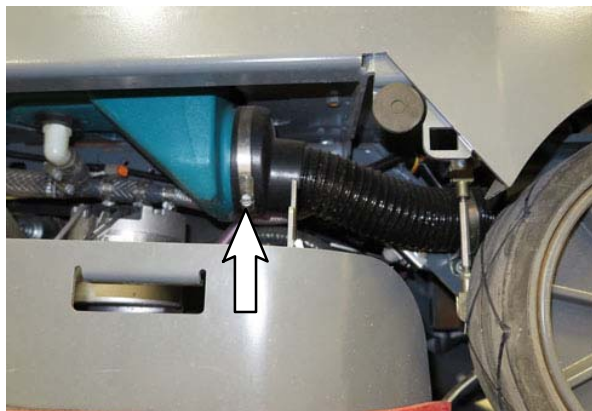

FIG. 2
1. Disconnect the drain hose from the solution tank. Set the hose clamp aside. (Fig. 2)
12. Reconnect the drain hose to the solution tank. (Fig. 2)
16. Reconnect the drain hose to the solution tank. (Fig. 2)